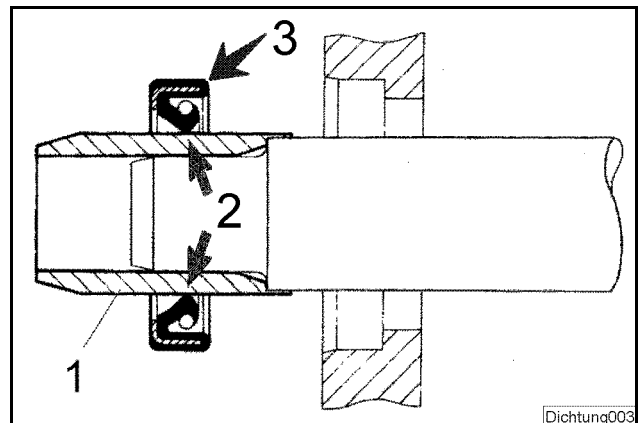

Fig. 2
- Lubricate the sealing lips (2) (Fig. 2) with clean grease; in case of double seals fill the space between the sealing lips with a generous amount of grease.
If possible, use an assembly sleeve (1 (Fig. 2)), to protect the lip from being damaged by sharp edges, threads or splines. If no assembly sleeve is avail-
- Lubricate the outer rim (arrow 3 (Fig. 2)) of the seal and press it flat on the housing seat.